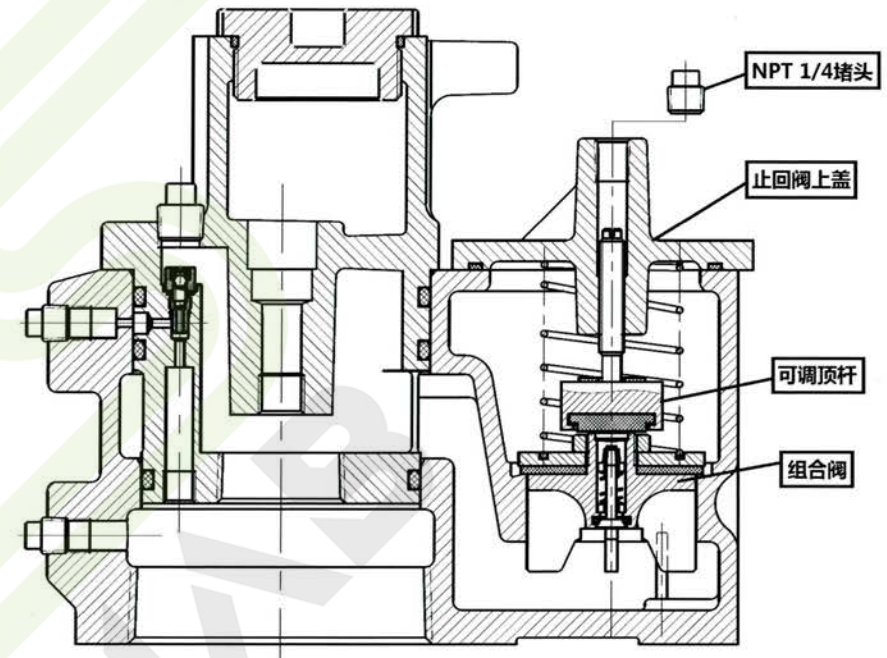

Figure 15 Closing the check valve
2. Remove protective plug and close pump check valve by turning the vent closing screw clockwise as far down as possible. (See Figure 15)
1. Remove the protective plug and close pump check valve by turning the vent closing screw (see Figure 15) as far down as possible. Remove the 1/4" NPT tank test port plug and attach tank testing equipment. Apply tank test pressure at tank test port.